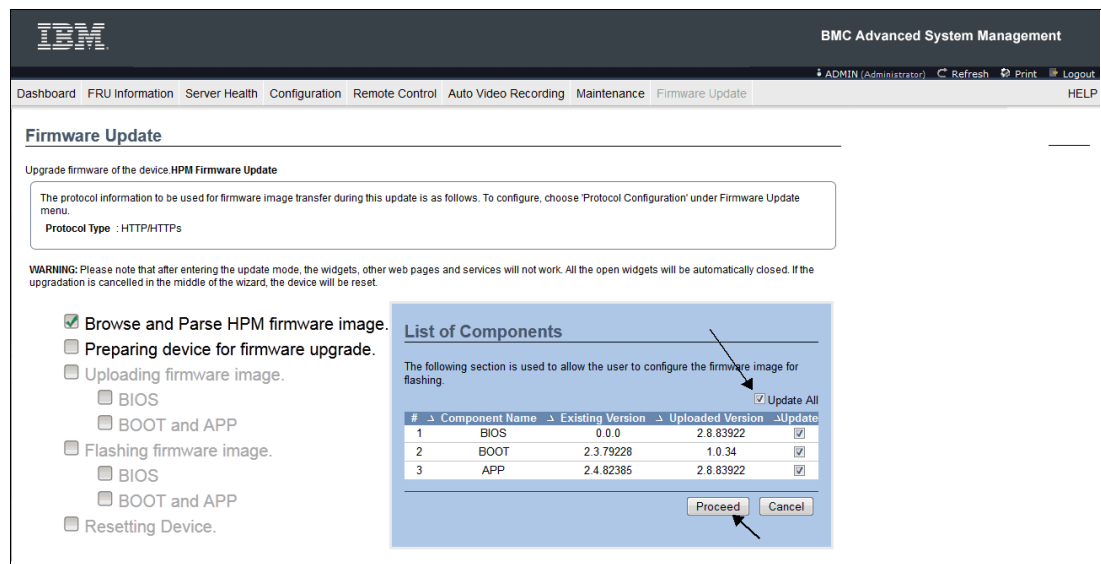

Figure 3-9 Start the firmware upgrade
7. When the correct firmware image is selected, the GUI shows a list of components that will be updated, as shown in Figure 3-9. By default, all the components are selected. To update the firmware, click **Proceed**.